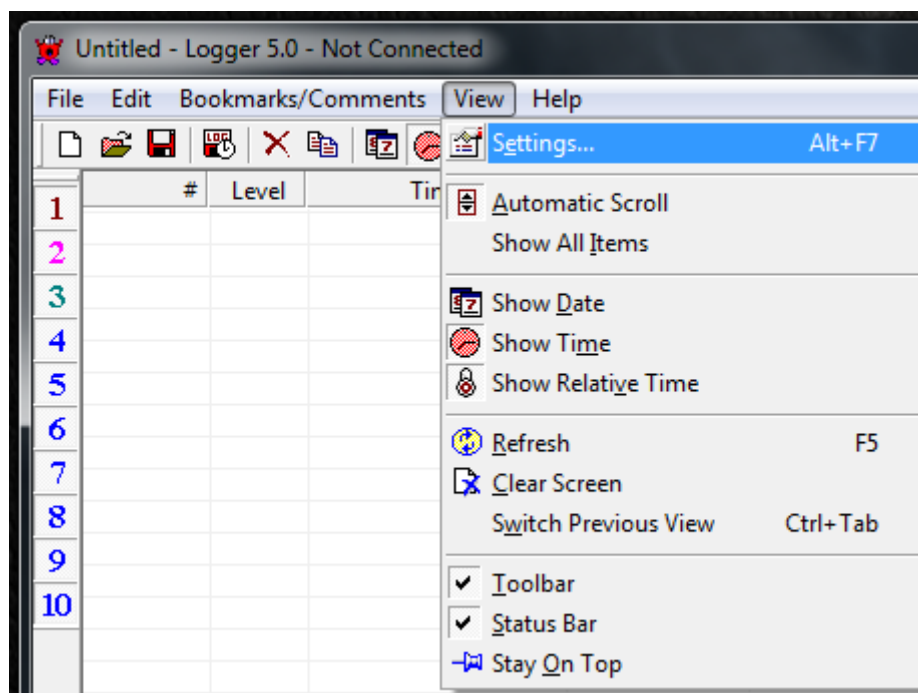

Figure 4. Selecting Logger Settings
2. From the menu bar of the main working window, click the View menu and select Settings, as shown in Figure 4.